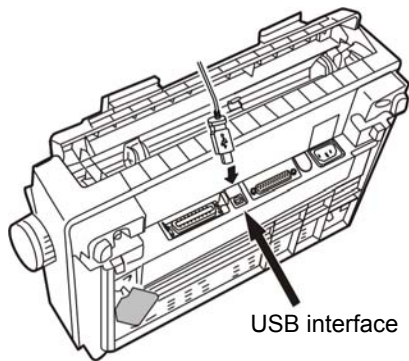

Figure1-26 Connect to the USB cable
2. Plug the B end of the USB cable (square shape) into the printer's USB interface. (As figure1-26 shown)